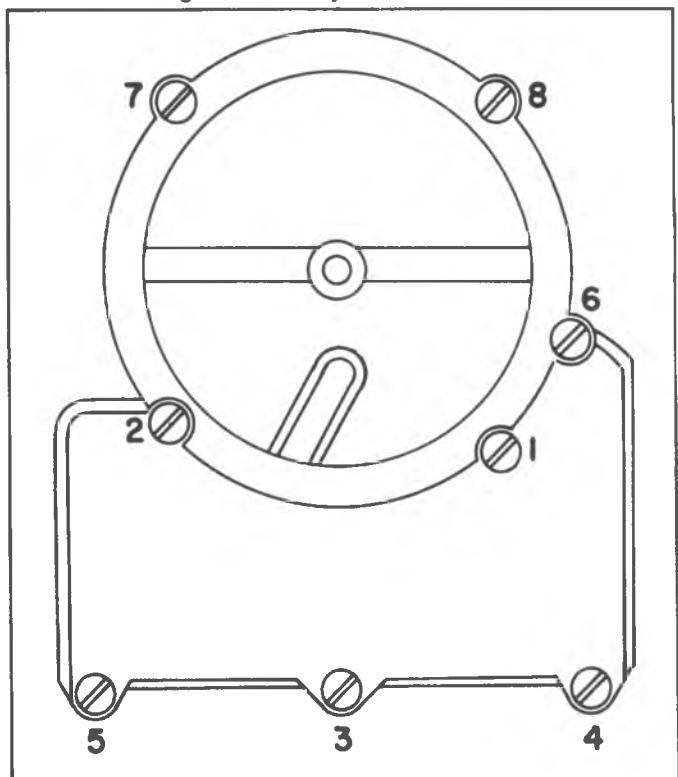

Fig. V9--Air Horn Tightening Sequence
2. Install and tighten air horn screws evenly and securely in sequence shown in Figure V9. The number one screw is the long screw.